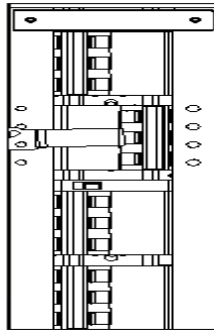

Figure5-13 Moving the baffle upwards
1. Remove the maintenance bypass switch baffle retaining screws, rotate the baffle upwards until it is locked in position, and then fasten the retaining screws. As shown in Figure 5-13.